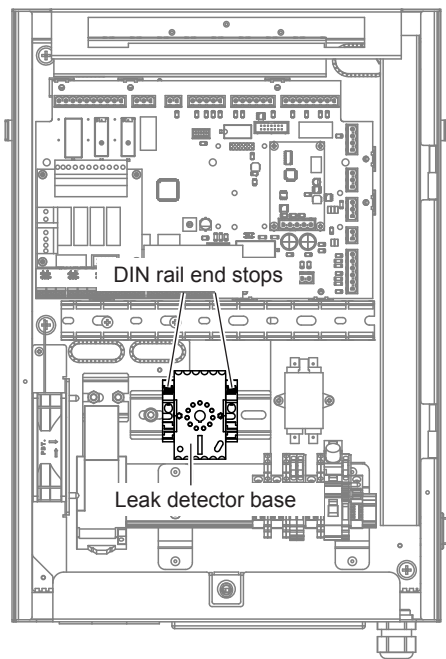

Fig. 6: Installing leak detector base
8. Attach the leak detector base to the longer of the two DIN rails on the bracket. Secure leak detector base on either side using DIN rail end stops, as shown in Fig. 6.